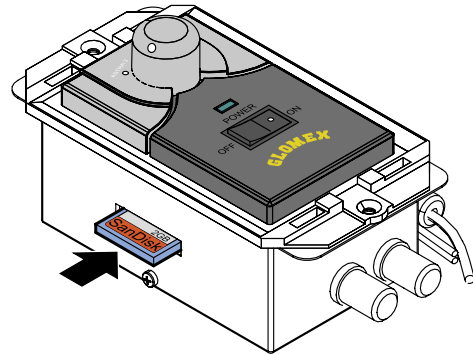

Fig. 24
3. Insert the SD card into the relevant slot on the control unit side, as indicated in **Fig. 24**, respecting the direction (side with manufacturer label up) and making sure you have completely inserted it.